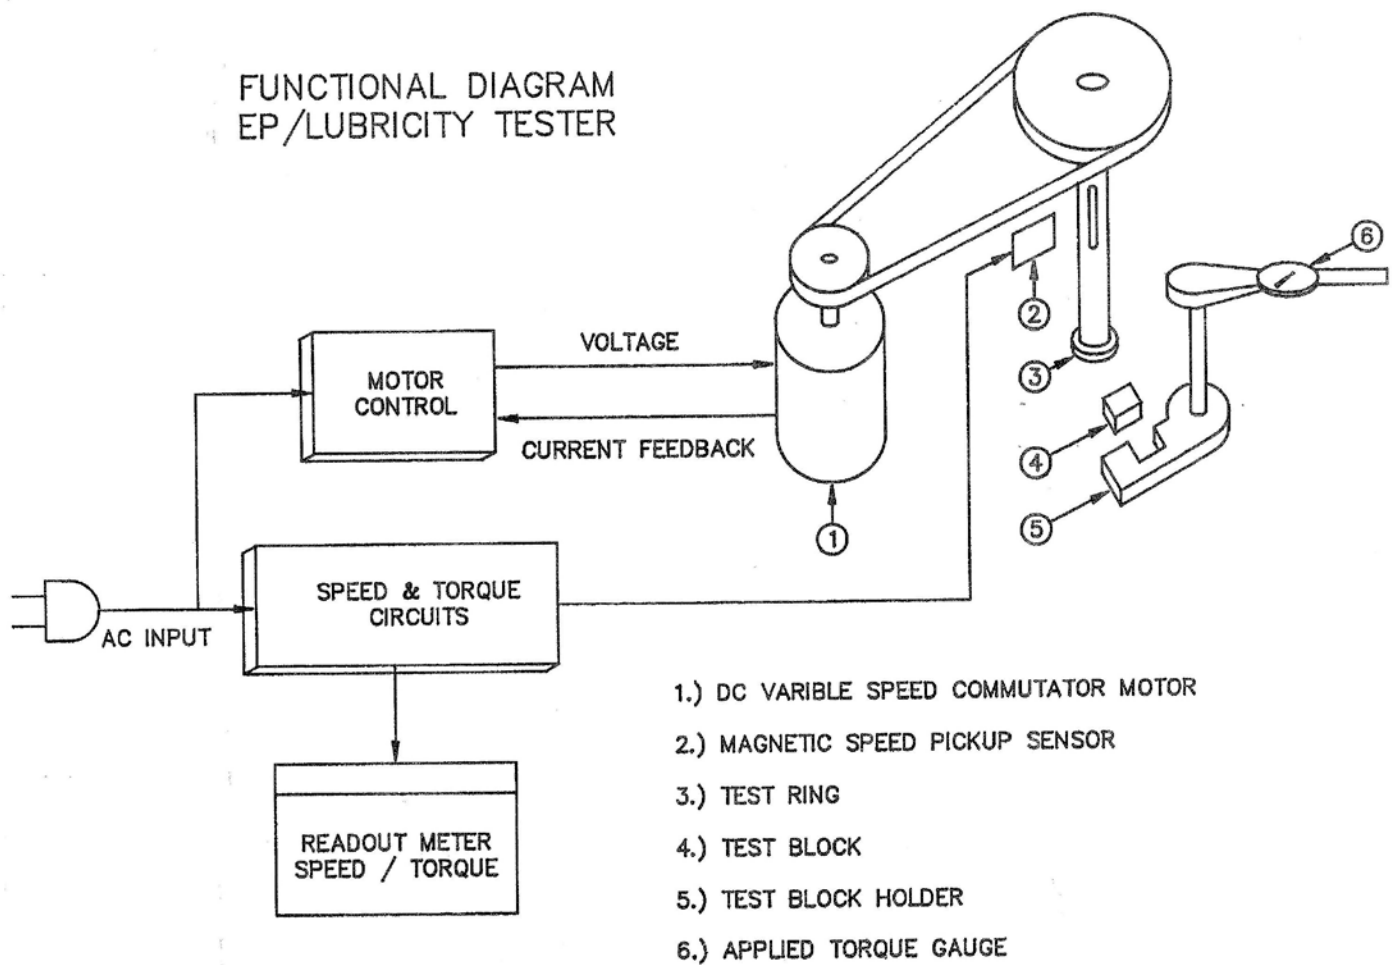

Figure 2 – Functional Diagram EP/Lubricity Tester
- 5.2.1.3 Place lubricity test block in block holder with indentation towards main shaft away from torque shaft (Refer to Fig. 2).